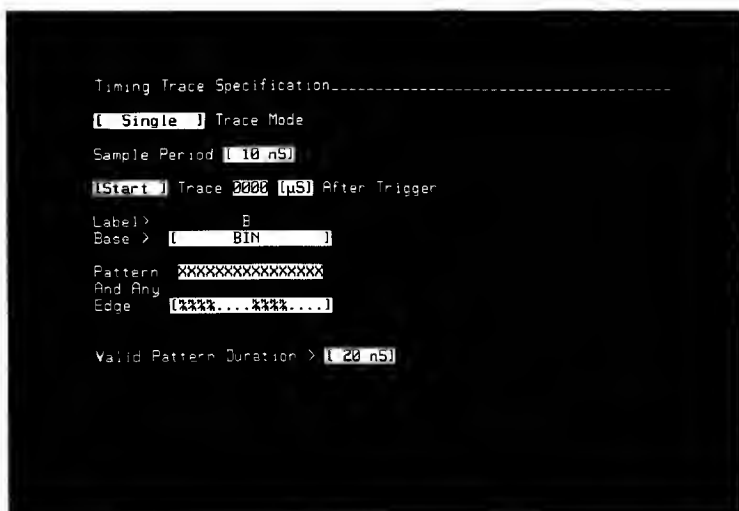

Figure 3-15. Triggering On A Pattern And Edge Transition
7. If there is a dot in the field where you positioned the cursor, press the NEXT[] key one time to obtain the rising-edge arrow. If there is an N/A (not available) notation in this field, you will have to return to the WFORM display and select new channels, a different one with a low-to-high transition and two other channels that are high, if required. Edge recognition is not available for all of the timing bits. See figure 3-15.